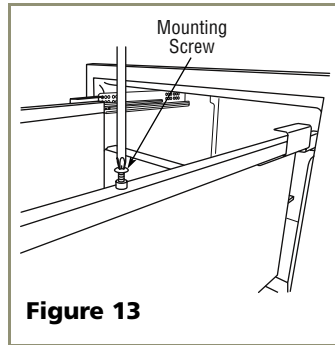

Figure 13
3. Remove the mounting screws. See **Figure 13**.
2. Re-install the rails' mounting screws. See **Figure 13** on **Page 10**.